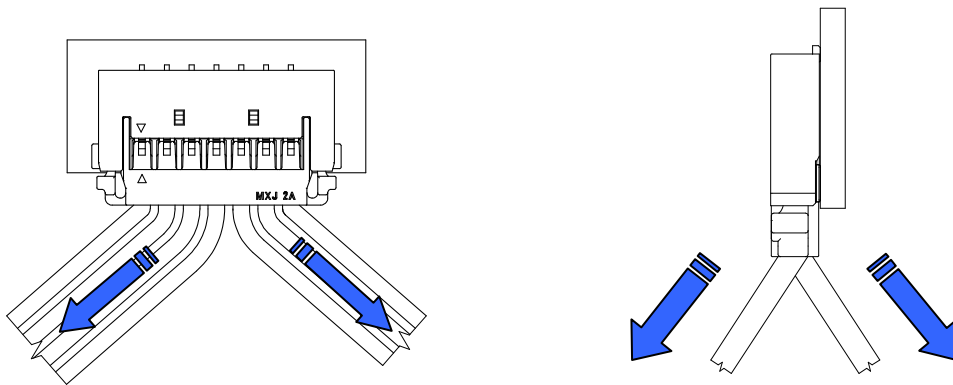

Fig.9-3-3 Pulling around wires toward more than 2 direction.
- ※Wire routing inside customer's device needs to avoid excessive stress. Please avoid pulling them toward more than 2 direction.(Fig.9-3-3)